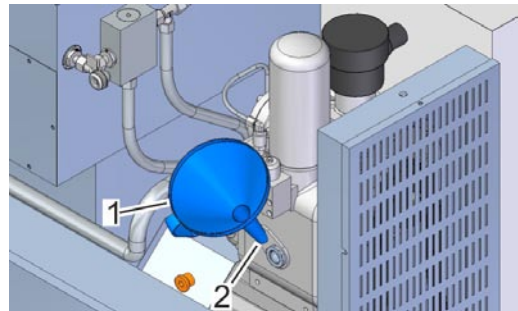

Fig. 34: Filler nozzle
7. Use a funnel (Fig. 34/1) to top up the oil to the filling edge on the filler nozzle (Fig. 34/3).
9. Insert the screw plug (Fig. 34/2) and tighten.